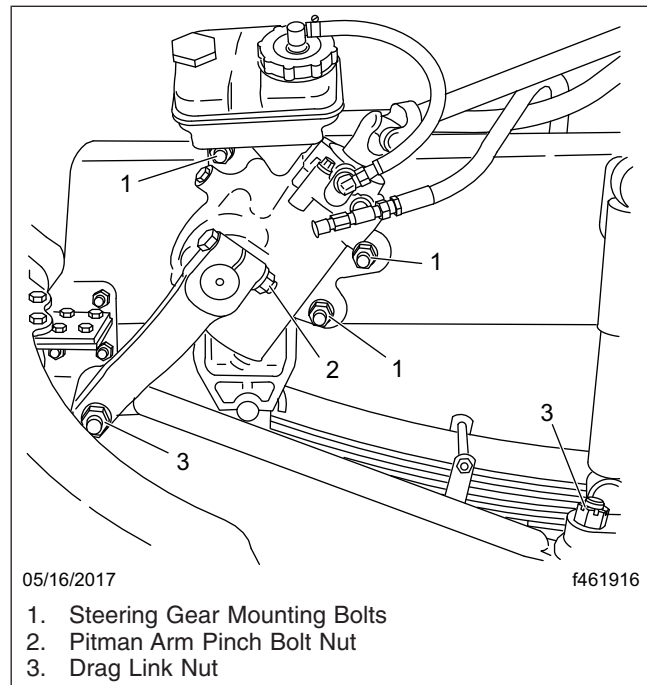

Fig. 20.13, Integral Steering Gear Fasteners
- 6.1 Inspect tie rods, steering arms, and the drag link for signs of looseness (i.e., shiny spots or rust tracks). See Fig. 20.13.